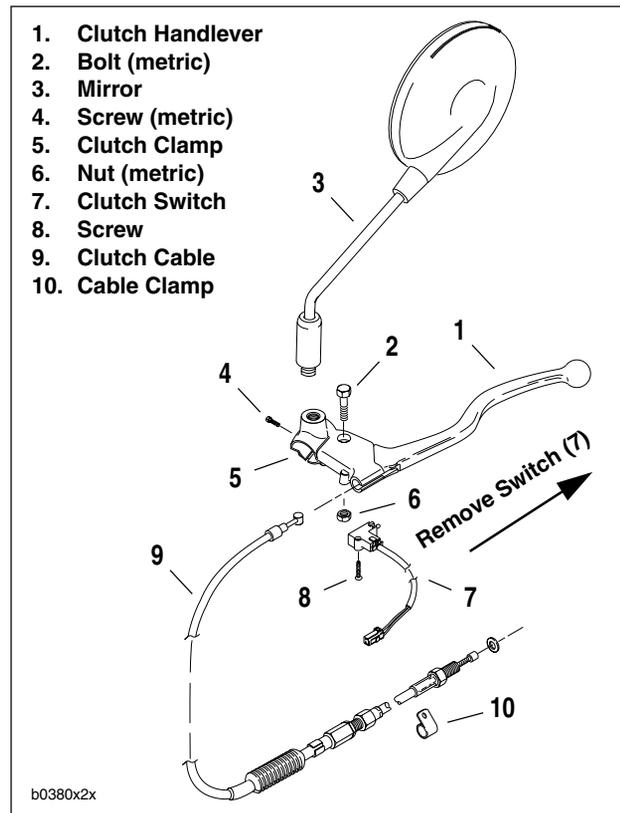

Figure 2-98. Clutch Hand Control
1. See Figure 2-98. Detach clutch switch (7).
- a. Remove screw (8).
1. See Figure 2-98. Attach clutch clamp (5) as follows.
- c. Place clamp next to switchgear housing. Fasten to handlebar with screw (4) (metric). Tighten to 30-35 **in-lbs** (3-4 Nm).
3. Apply small amount of LOCTITE ANTI-SEIZE LUBRICANT to bolt (2). Attach handlebar with bolt (2) (metric) and nut (6) (metric).
4. Attach clutch switch (7) with screw (8).